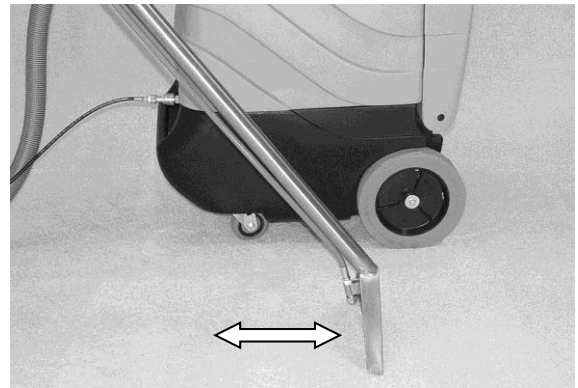

Fig. 6
2. Take carpet cleaning wand in hand and squeeze valve trigger while moving the tool in short forward and backward strokes. (Figure 6).